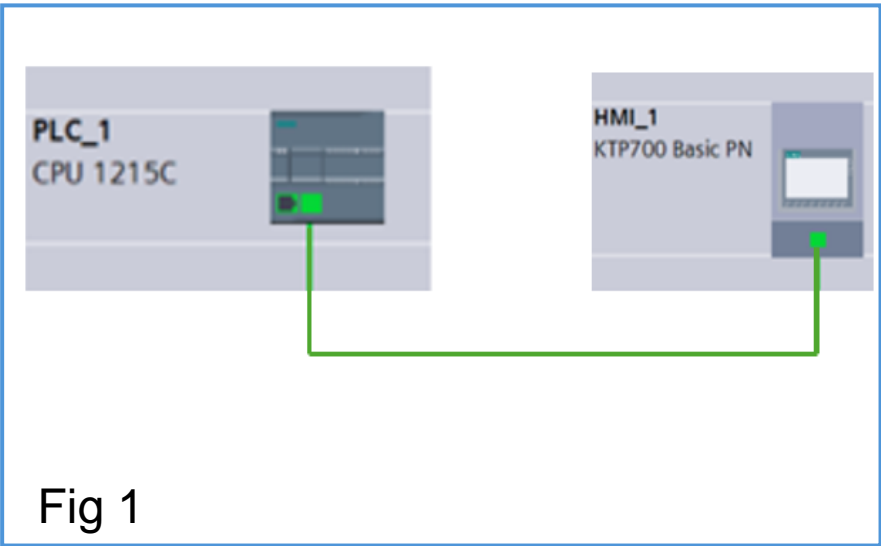

Fig 1
- 1. Step 1: Step 2: Connect the parts 1 and 2, following the Fig.1;